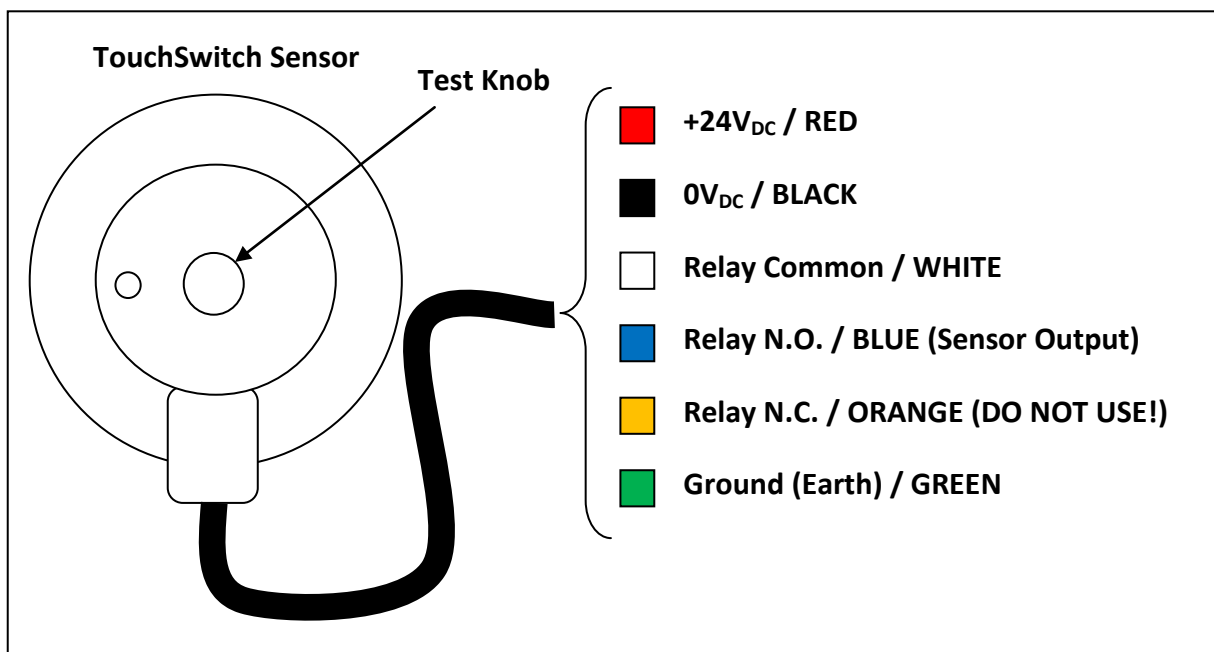

Figure 8 – TouchSwitch™ Electrical Connection
- 2) Slowly turn the test knob (see Figure 8) clockwise by hand, until the LED goes OFF